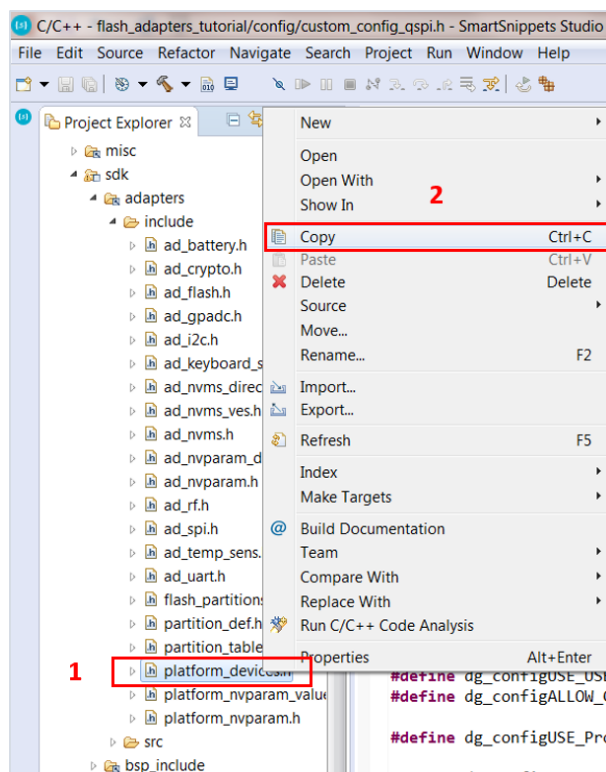

Figure 12: Creating a platform_devices.h Header File, Step 1
- Connect the EEPROM module to the Pro DevKit. Figure 12 illustrates the pin connections required to configure the 24LC256 module. For more information on the EEPROM module used, read the manufacturer datasheet.